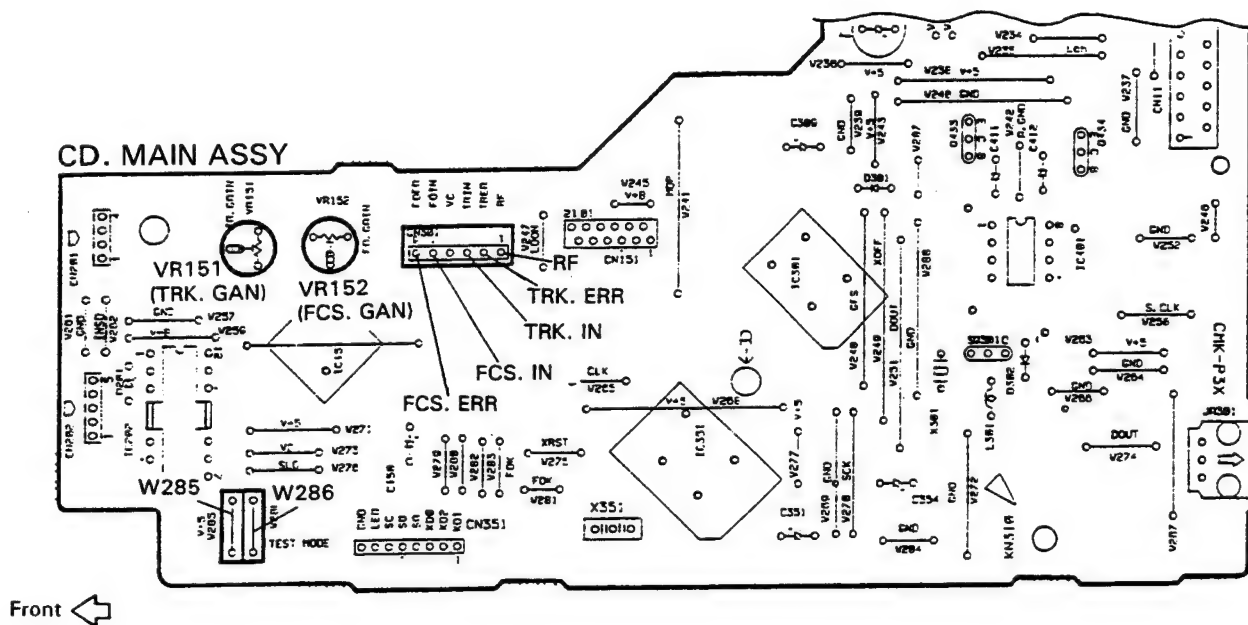

Fig. 3-1 Adjustment Location
2. **Short-circuit** jumper wires (W285 and W286) for the test mode (See Fig. 3-1).